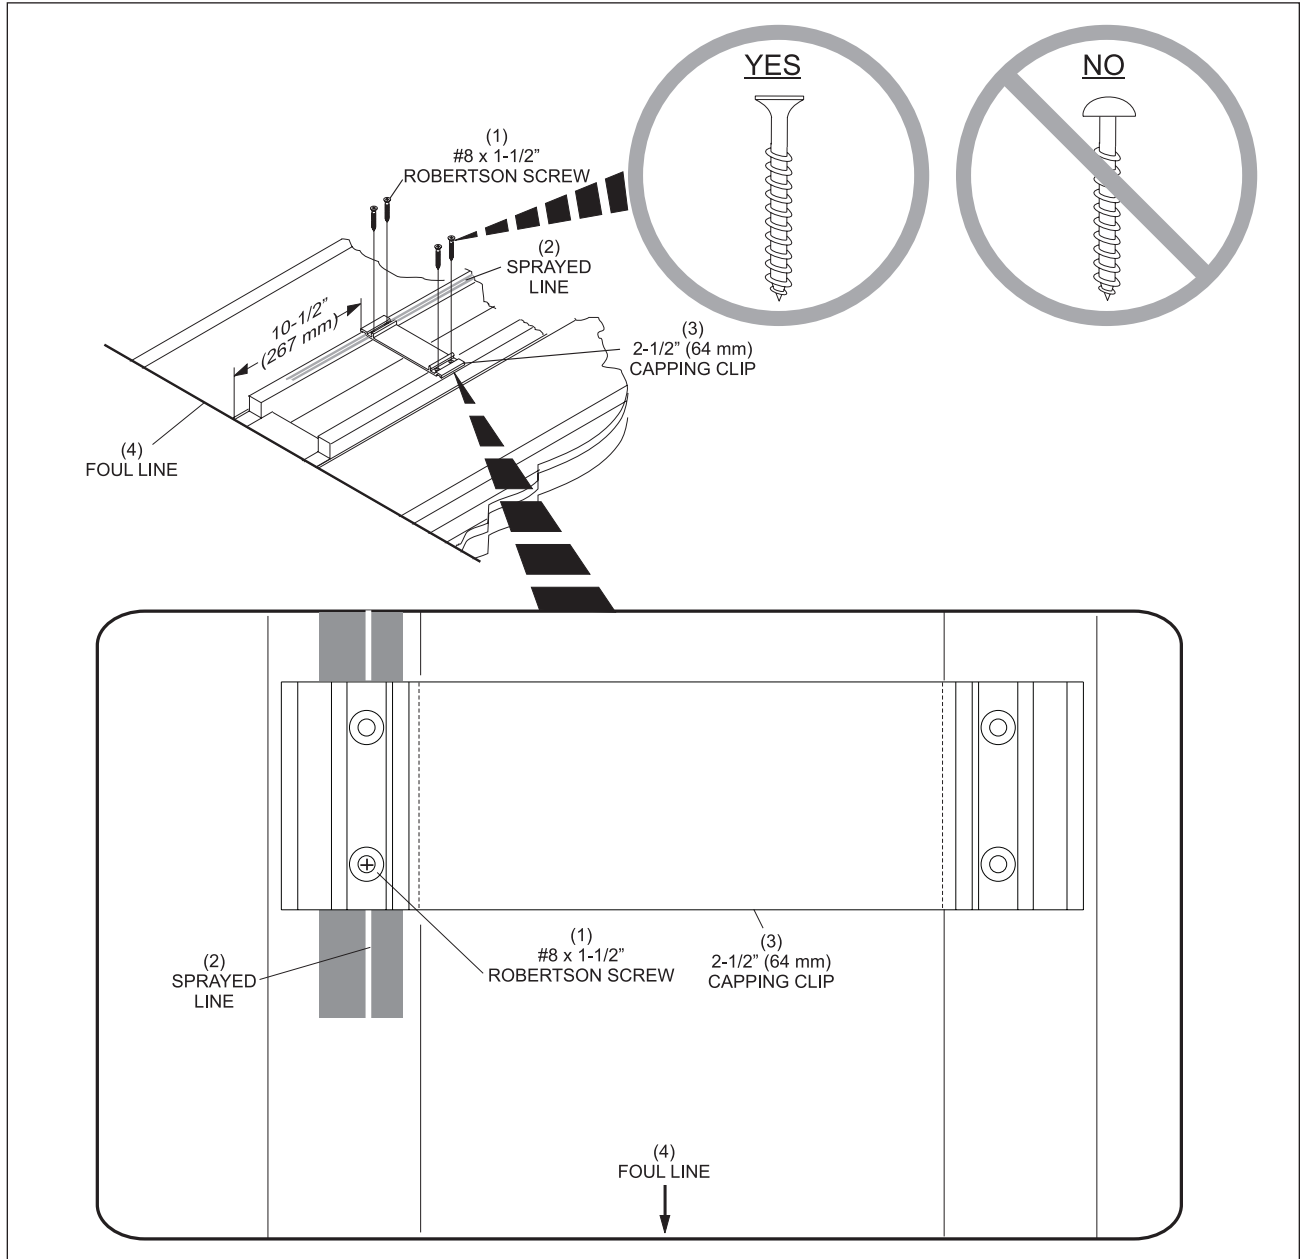

Figure 24. Clip Installation
1. Install the additional capping clips as shown in *Figures 24 and 25*.
CAUTION! The use of a brad nail gun to quickly position the clips is not recommended. Doing so may cause the capping clip to crack. Use only the correct screws illustrated in Figure 24.